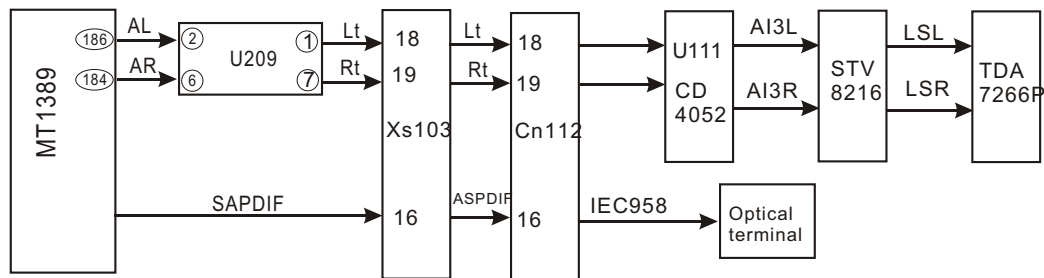

Figure 3.2.10.1 Audio signal flow chart block diagram
1. Audio signal process block diagram is shown in the figure 3.2.10.1: